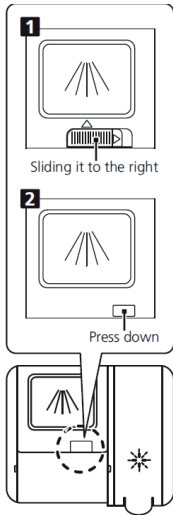

Fig.6
- Method 2: Open the lid by pushing the release latch. (Fig. 6).